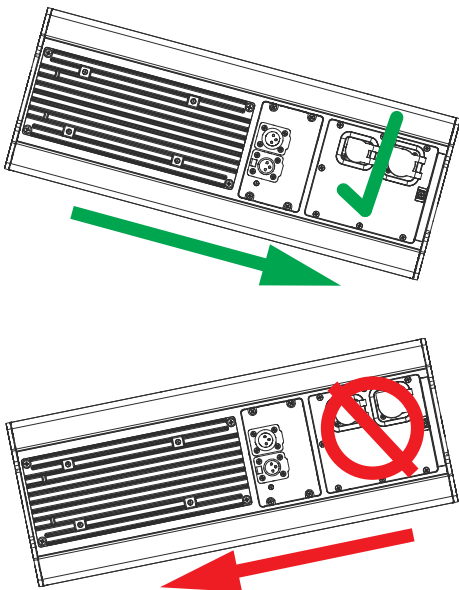

Figure 54: Horizontal Tilt-Away from Electronics Permissible (top); Horizontal Tilt-Toward Electronics **NOT** Permissible (bottom)
**CAUTION:** If tilting the loudspeaker from 0° horizontal, ensure that the horizontal tilt leaves the port below the electronics, so that water does not enter from the port and accumulate in the cabinet (Figure 54).